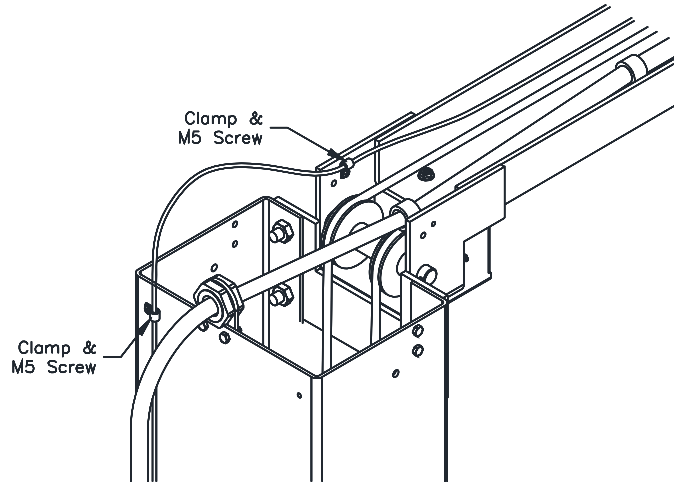

Fig. 9 – Lock Cable Routing
- 31) Secure Lock Release Cable at the top of each column extension as shown in **Fig. 9**. Lock Release Cable should be routed on the opposite side of the Overhead Beam as the Idler Hose to prevent interference.